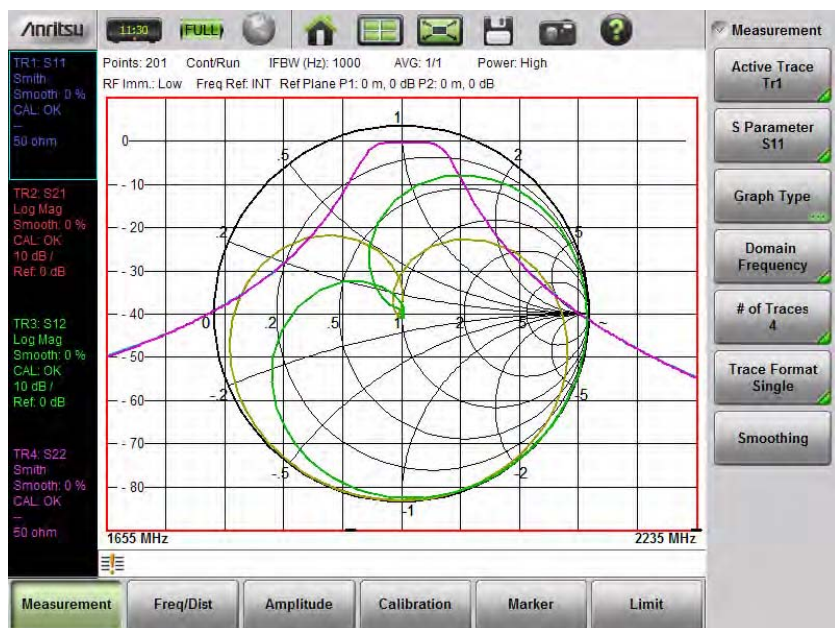

Figure 6-3. Format = Single, Traces = 4
2. Beginning with the default view, set Trace Format = Single, with Number of Traces = 4. Notice how all 4 traces are overlaid on a single graph. Refer to Figure 6-3 on page 6-10.